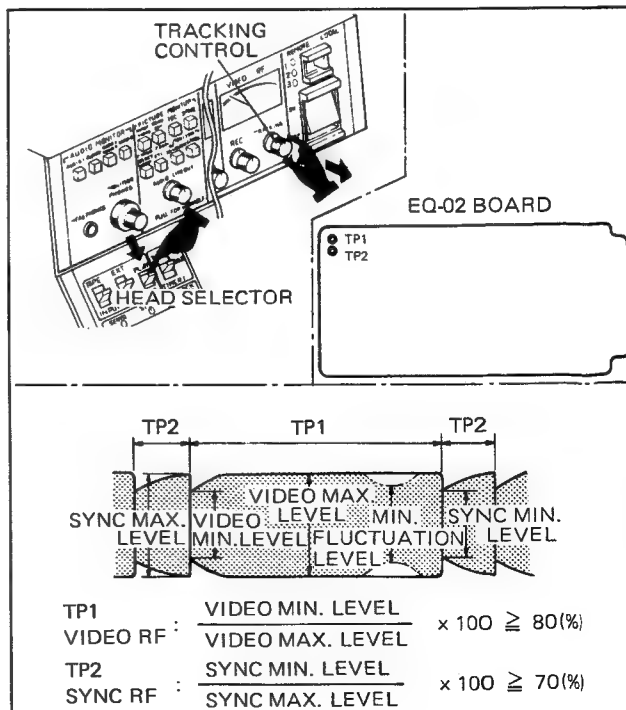

Fig. 3-3. Tracking Check
3. Play back the "WHITE" segment of the alignment tape, and check that the RF envelope is within the specified values shown in Fig. 3-3. If not, perform the tracking adjustment.